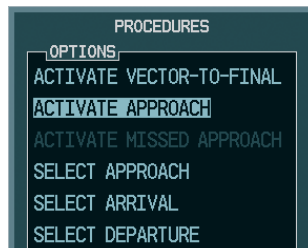

Figure 5-135 Manually Activate Approach
- Turn the large **FMS** Knob to highlight 'ACTIVATE APPROACH' as shown in Figure 5-135.